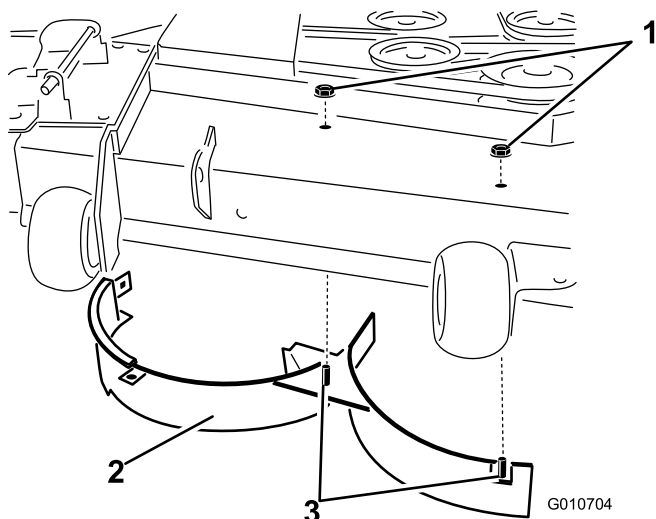

Figure 38
11. Remove the two locknuts (5/16 inch) securing the welded posts of the right baffle to the top of the mower deck at center and right of center positions (Figure 38).
12. Remove the carriage bolt and locknut securing the right baffle to the top of the mower deck. Remove the right baffle from the mower deck (Figure 38).